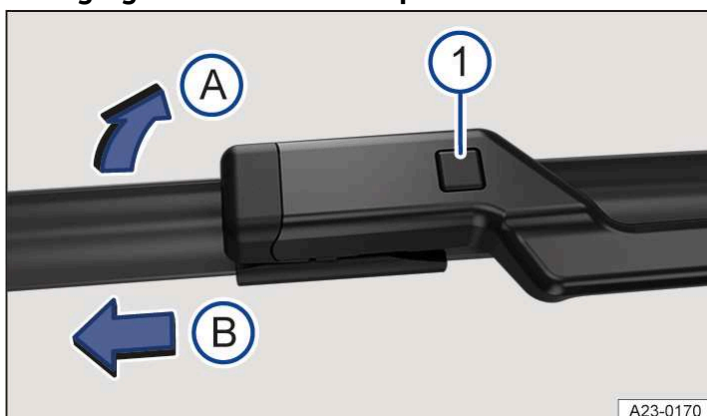

Fig. 1 Changing the windscreen wiper blades.
① Release button for the wiper blade.
3. Press and hold the release button → Fig. 1 ①.
4. Tilt the wiper blade in the direction of the wiper arm → Fig. 1 ① (A) and pull it off in the direction of the arrow ① (B) at the same time. You may need to use some force to do this.
5. Insert a new wiper blade with the same length and design onto the wiper arm against the direction of the arrow. Push it on until it engages → Fig. 1 ① (B). The wiper blade must be in folded-down position to do this → Fig. 1 ① (A).